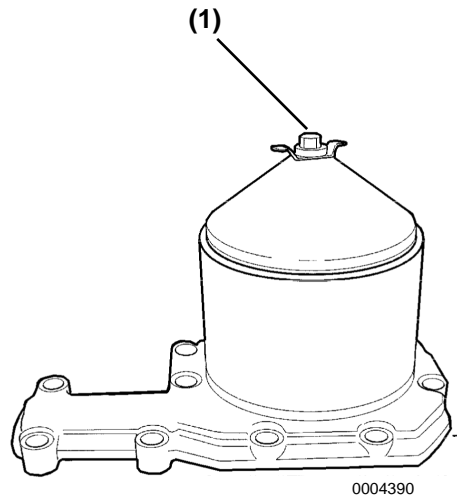

Figure 11
- Install the bowl and tighten the lock nut to 15 N·m (133 in.-lb) (**Figure 11, (1)**). Be careful not to damage the rotor shaft, nut and bowl when tightening the lock nut.